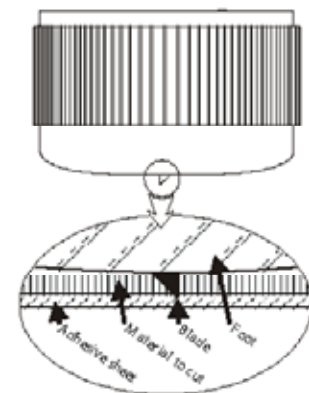

Figure 13. A properly adjusted blade.
3. Insert the blade into the blade holder (**Figure 13**). It will resist at first then slide freely to a hard stop when properly inserted.